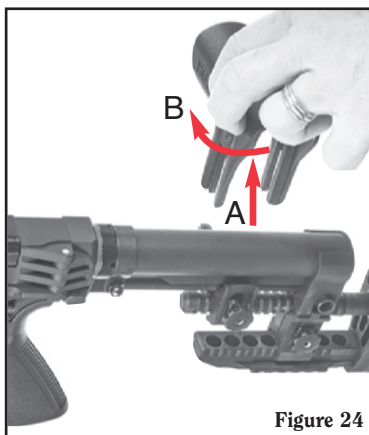

Figure 24
- The contact portion of the cheek piece can be adjusted fore and aft by removing the cheek piece, rotating it 180°, and reinstalling it. (See Figure 24.)